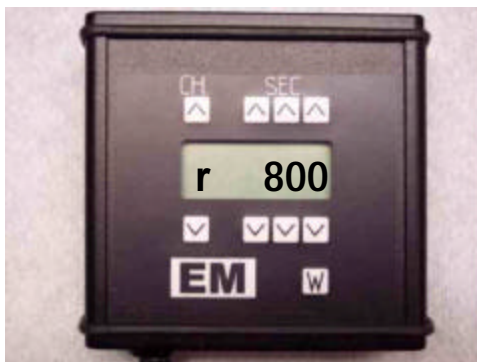

Fig. 10
3. Press “CH √” again and the display will read “r 800”. The “r “ indicates that this is the rpm value for any channels that are in “r1” mode. (Fig. 10)